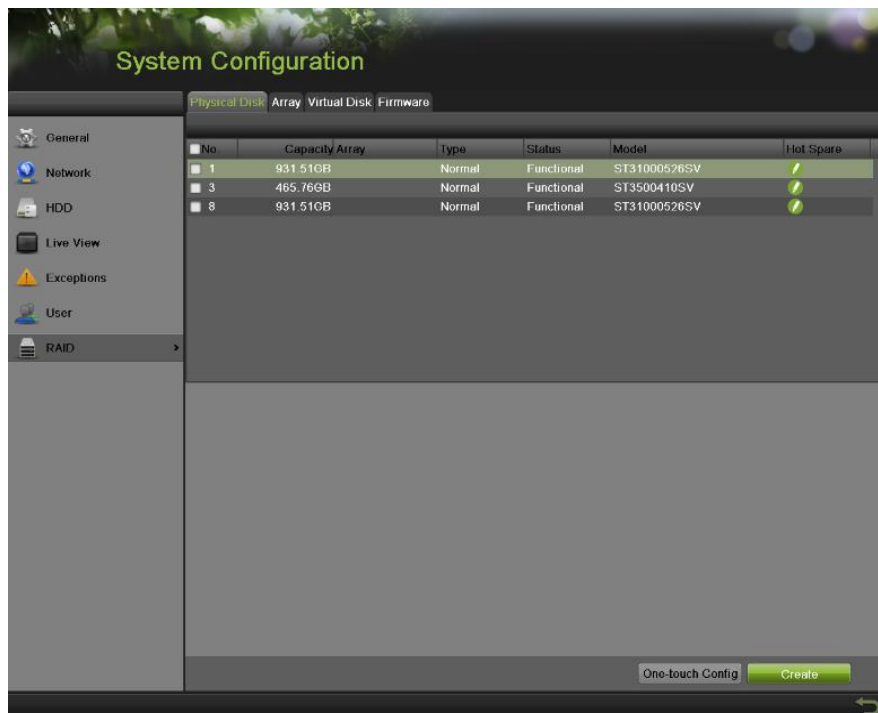

Figure 131 Physical Disk Settings Menu
1. Enter the Physical Disk interface by going to Menu > System Configuration > RAID > Physical Disk, as shown in **Figure 131**.